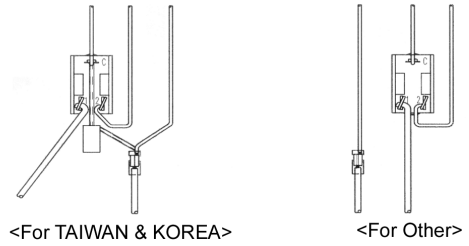

Figure 1
**CAUTION :** When soldering lead wires on switch, location and orientation of lead wires must be as shown in Figure 1.